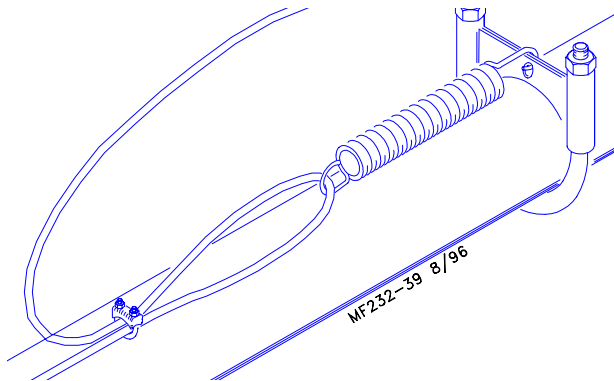

Figure 44.
5. Loop the cable around the end of the Spring and secure with a cable clamp. See Figure 44.